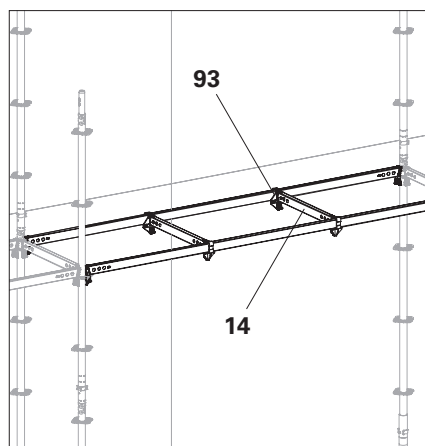

Fig. A8.04a
1. If necessary, install additional horizontal ledgers (**14**) with Ledger-to-Ledger Coupler UHA (**93**) in the system dimension. Do not secure the wedges yet. (Fig. A8.04a + A8.04c)